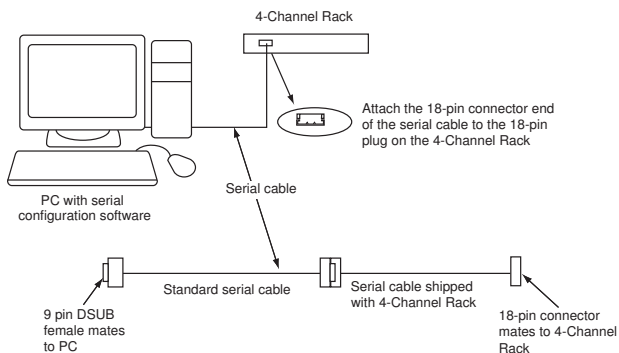

Figure 2 Serial port connection
- Connect the 9-way DSUB end of the serial cable to a PC serial port using a standard null modem serial cable, as shown in **Figure 2** on page 15.